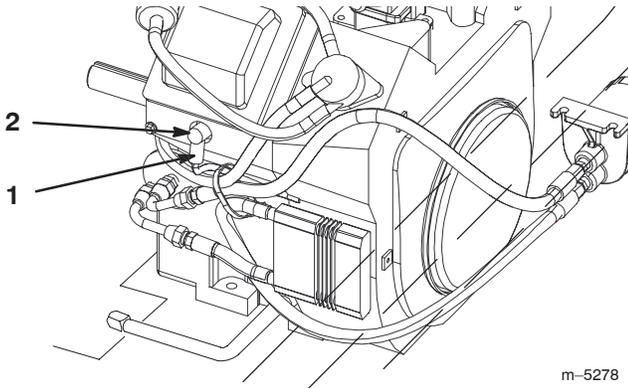

Figure 63
2. Pull the wire(s) off the spark plug(s) (Fig. 63). Now clean around the spark plug(s) to prevent dirt from falling into the engine and potentially causing damage.
3. Push the wire(s) onto the spark plug(s) (Fig. 63).